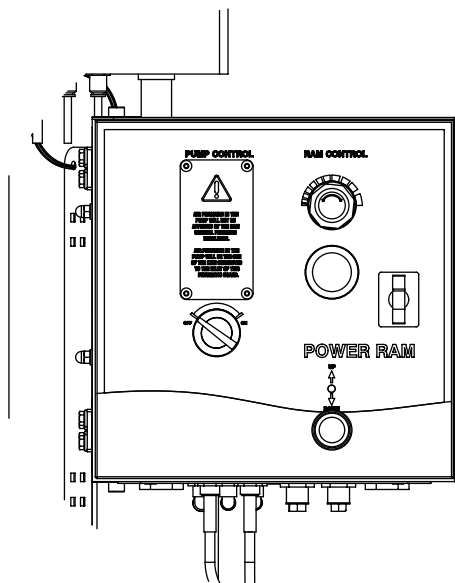

Fig. 6
1. Check that the control cabinet lever is in the "NEUTRAL" position (centre) (fig. 6).
5. Let the inductor plate descend through the drum. When the follower stops move the control cabinet lever to the "NEUTRAL" position (centre) (fig. 6).
3. Move the control cabinet lever to the "UP" position (fig. 6).